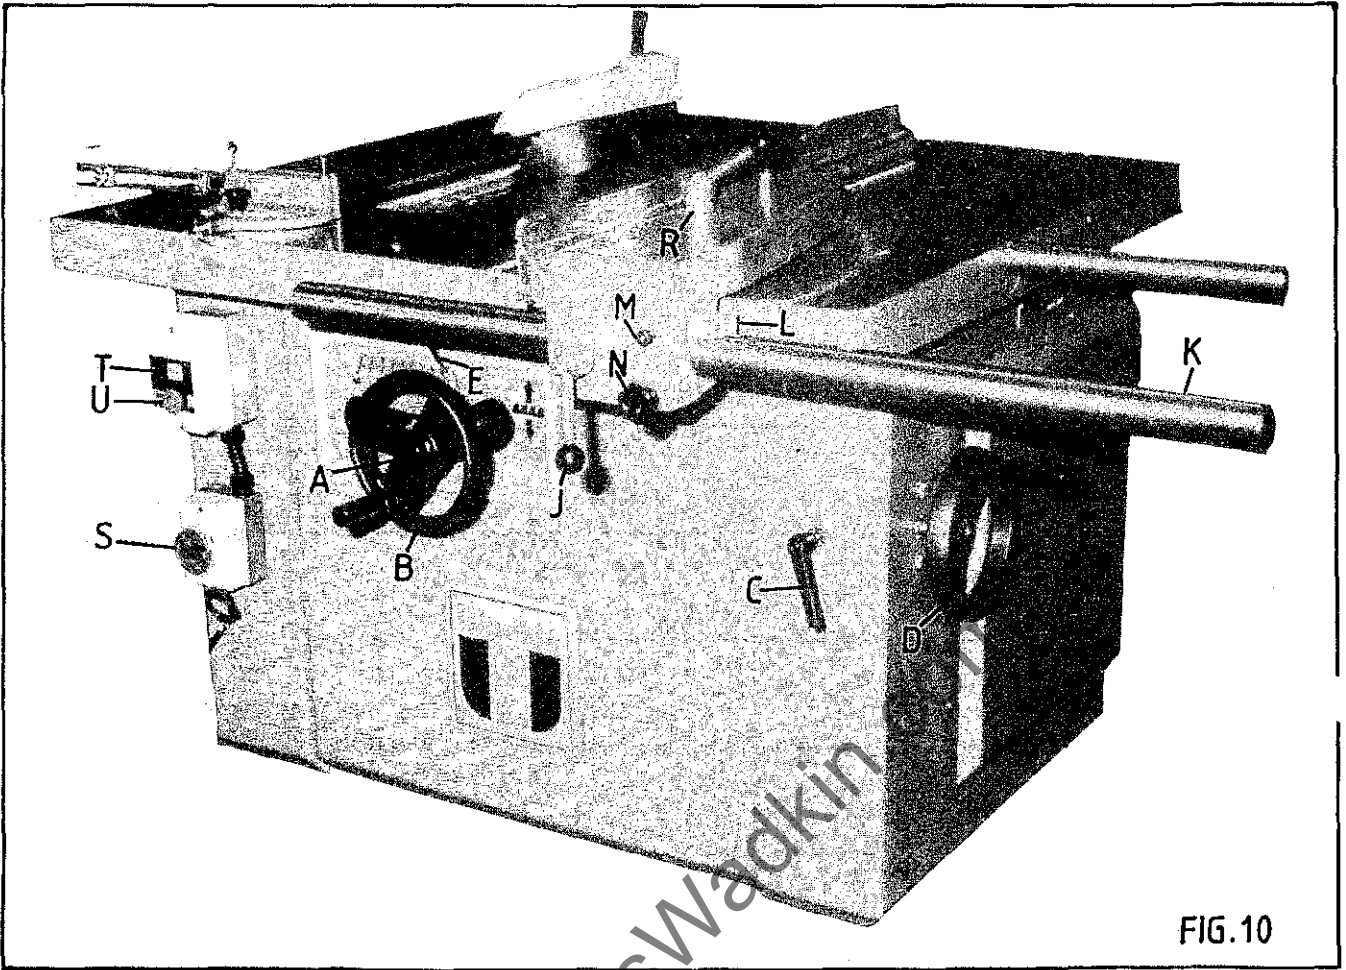
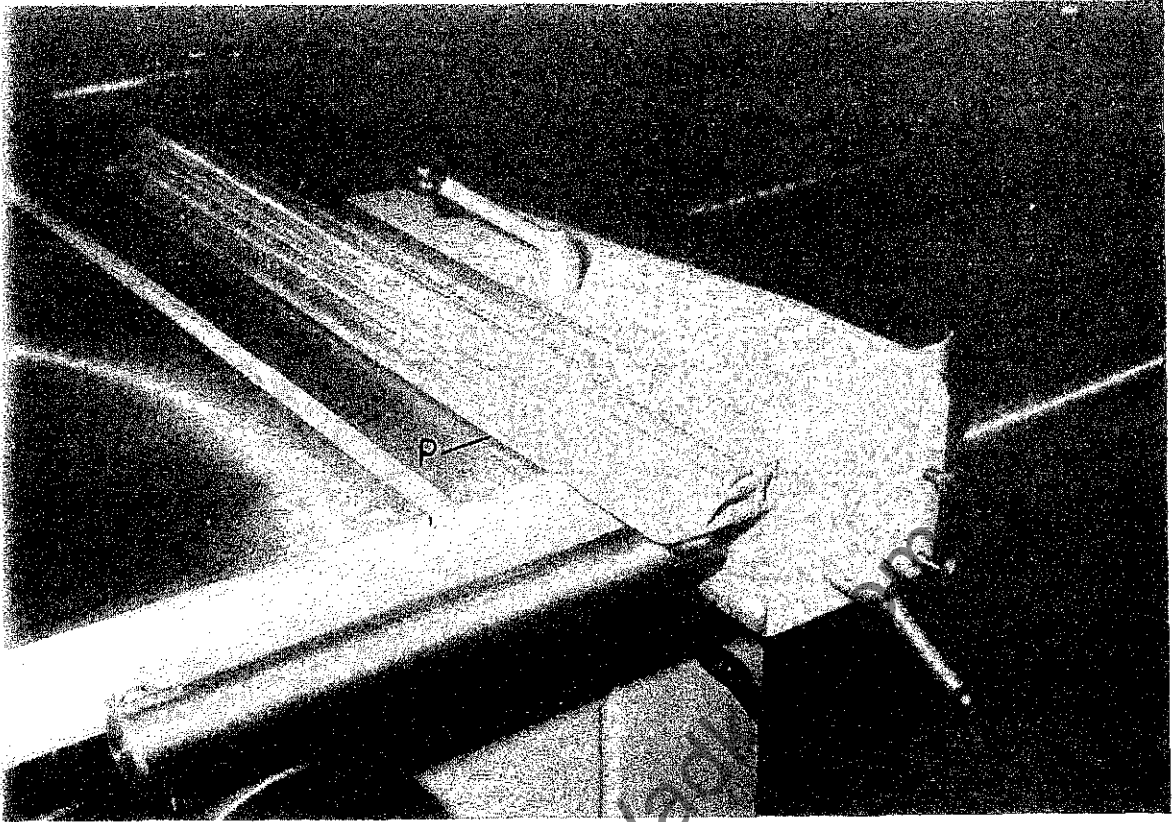

FIG.10
FIG.12
- a) Release locking handle "A" FIG.10 and raise or lower the saw arbor by the handwheel "B" FIG. 10 to the required position, then relock locking handle "A".
- a) Release locking handle "C" FIG.10 and turn handwheel "D" working in conjunction with the canting scale indicated by the pointer "E" to required saw position. Relock locking handle "C".
- a) Loosen locking handle "J" FIG.10.
The fence plate "P" FIG.10 has two positions. Position shown in FIG.10 is for use with deep stock, fence can be moved longitudinally to facilitate this. Position shown in FIG.12 is for use with faced panels, melamine, veneer, etc.
- a) To change fence plate position, loosen locking handle "R" FIG.10, then slide fence plate from fence body.
- b) Slide fence plate over the locking plate to position shown FIG.12, relock locking handle "R".
**NOTE:** When the fence plate position has been changed as previously described, the pointer "L" FIG.10, must be reset.
- c) To reset pointer, loosen locking handle "J" FIG.10, then move fence to a position which would allow a reasonable cut to be taken, relock locking handle "J".
The control panel is shown in FIG.10. When isolator "S" FIG. is fitted, ensure it is in the 'ON' position before operating.
The saw is controlled by start and stop buttons "T" and "U" FIG.10.